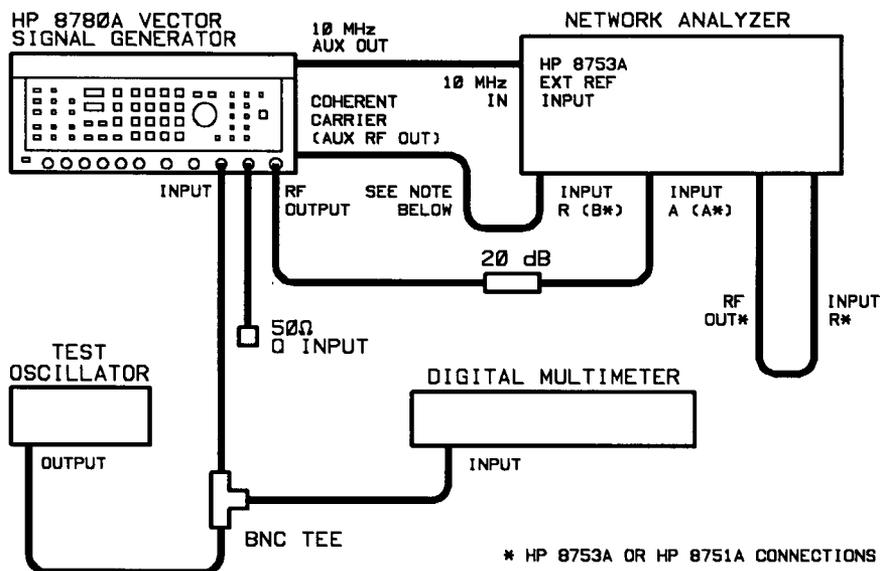

Figure 4-10. Vector dc Accuracy Test Setup
2. Connect the equipment as shown in Figure 4-10. The Generator 10 MHz auxiliary output must be connected to the network analyzer to provide a common timebase for the measurements.